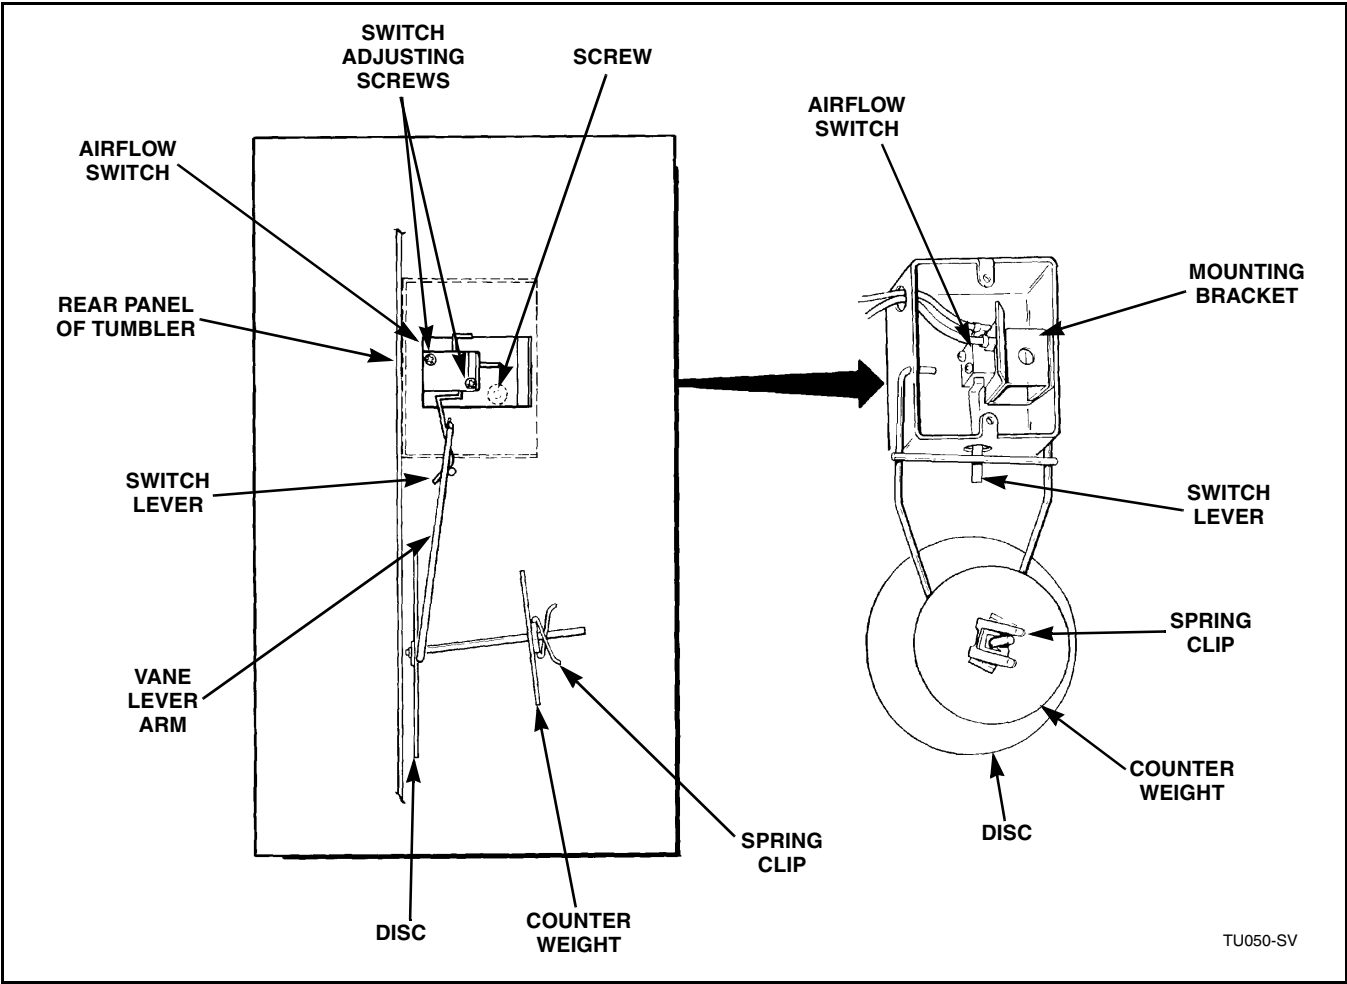

Figure 49
- d. If switch opens **BEFORE** lint panel is opened the proper distance as indicated in step “b,” it should be adjusted so it is **LESS** sensitive. Depress spring clip and move counterweight a small amount away from the disc. Retest by opening lint panel and continue moving counterweight away from disc until switch operates as described in step “b.” Refer to *Figure 49*.